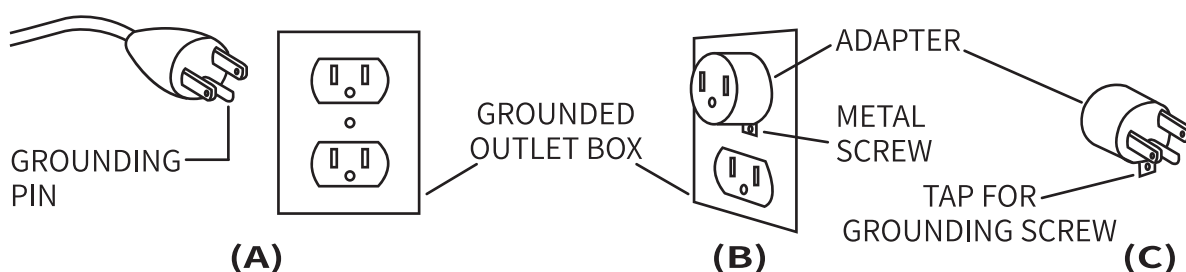

Figure 1.
2. This product is for use on a nominal 120 V circuit, and has a grounding plug that looks like the plug illustrated in sketch A in Figure 1. A temporary adapter, which looks like the adapter illustrated in sketches B and C, may be used to connect this plug to a 2-pole receptacle as shown in sketch B if properly grounded outlet is not available. The temporary adapter should be used only until properly grounded outlet (sketch A) can be installed by a qualified electrician. The green colored rigid ear, lug, and the like extending from the adapter must be connected to a permanent ground such as a properly grounded outlet box cover. Whenever the adapter is used, it must be held in place by the screw.